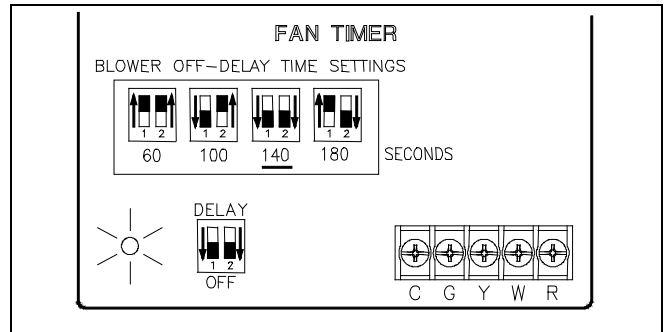

Figure 23. Heating Blower Off-Delay.
2. Determine switch settings for desired heating blower off-delay. See Figure 23.